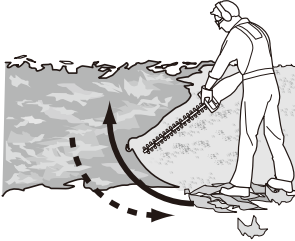

Fig. 7
6. First cutting both sides from the bottom upwards to the top. This will prevent any of the cuttings falling into the path of the area still to be cut (Fig. 7).